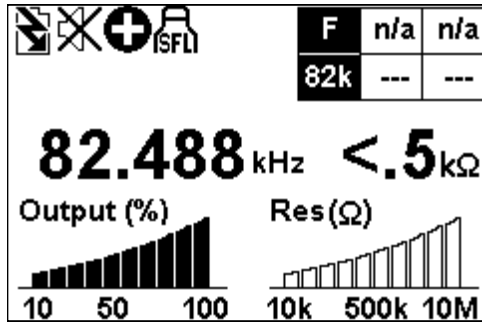

Figure 3-2: Transmitter display in SFL mode
6. Push transmitter **SFL** key. Check measured fault resistance on transmitter display. **See Figure 3-2**